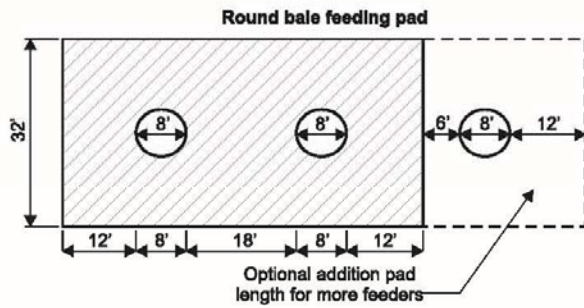

Figure 2. Large round bale feeding pad using hay rings.
*Layouts.* Figures 2, 3, and 4 present typical layouts for feeding pads and facilities for cattle using geotextile pads. These installations will improve animal performance, while reducing erosion and runoff from feeding sites.